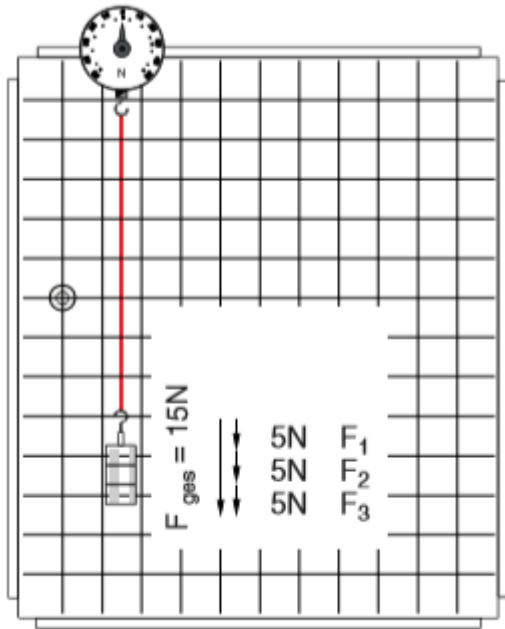

Figure 3: Addition of vertical forces
- 1) Add a dynamometer to the top of the board with a string attached. See figure 3.